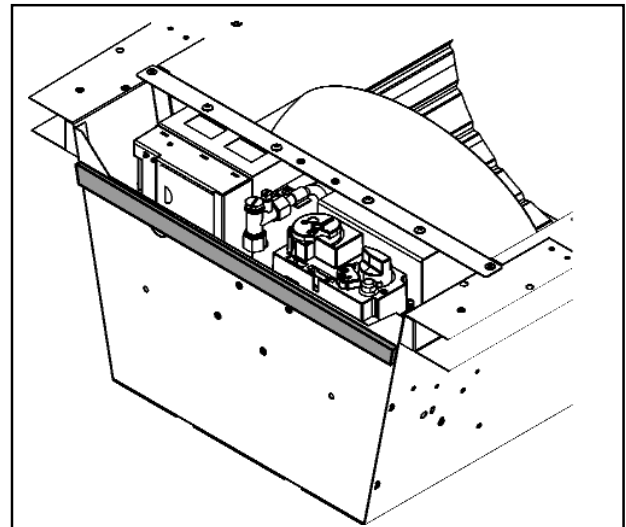

Figure 11. Fitting the foam seal to the base of the hotbox.
7. Supplied with the fire are a short and long length of self adhesive foam seal. Take the short length, peel off the adhesive backing and stick it to the underside of the hotbox (See figure 11).